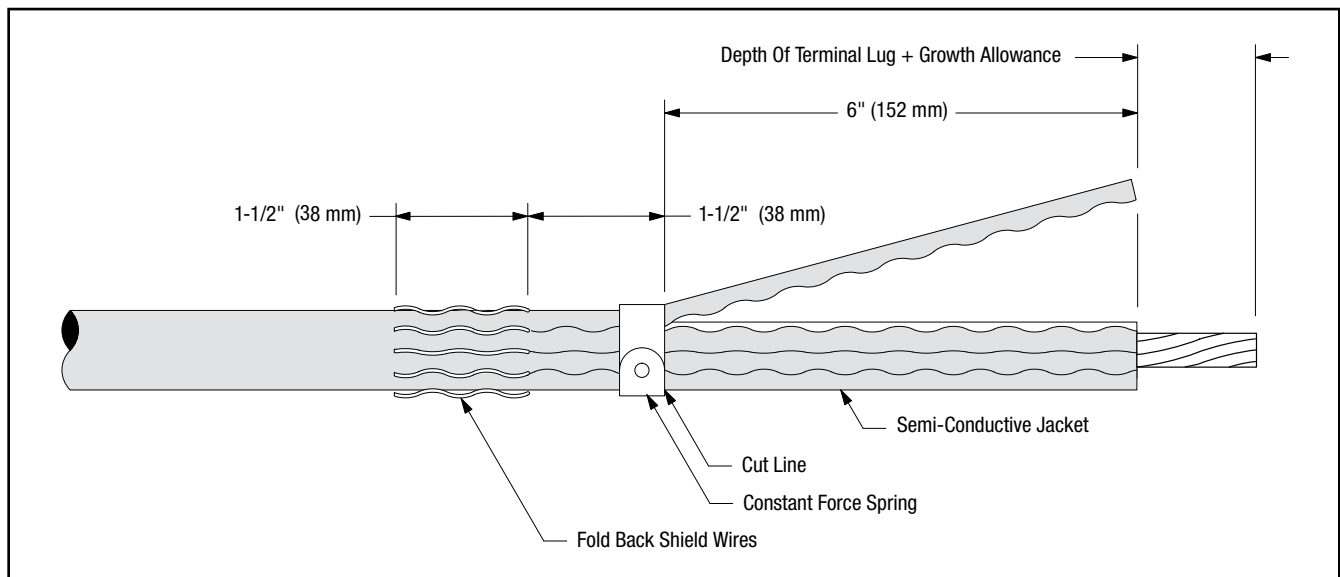

Figure 18
12.5 Remove semi-conductive jacket to dimension shown in Figure 18.
NOTE: To ease jacket removal, install constant force spring as shown in Figure 18 and ring-cut 80% through jacket. Remove jacket sections by pulling against constant force spring. **DO NOT BELL SEMI-CON JACKET.** Remove constant force spring.